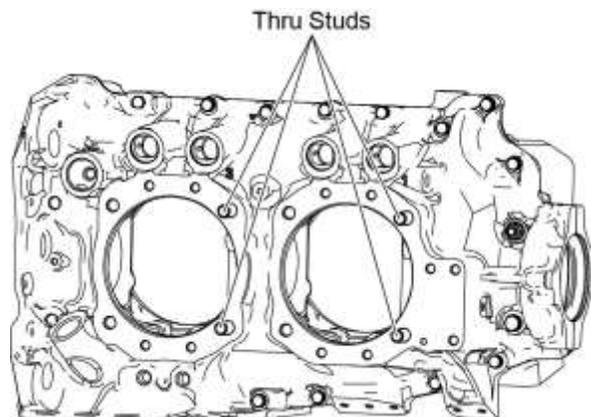

Figure 3
- C. Use a slide hammer, a Crankcase Thru-Stud Puller ST-271 or Crankcase Thru-Stud Driver ST-317 or a plastic hammer to remove the four thru-studs from the crankcase (Figure 3).